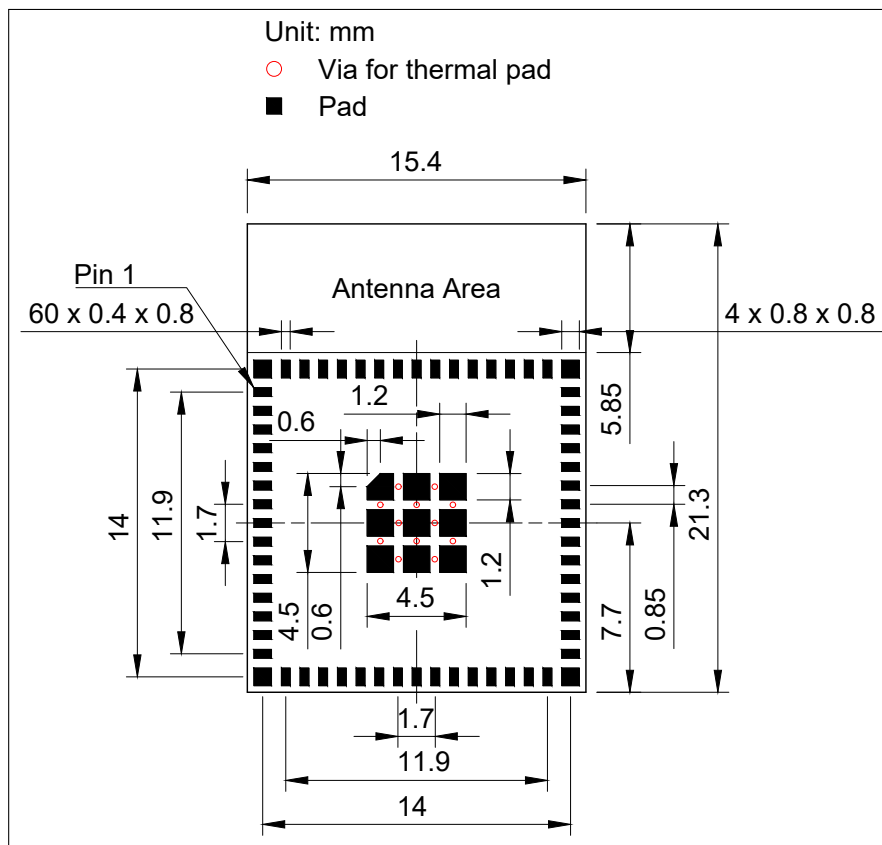
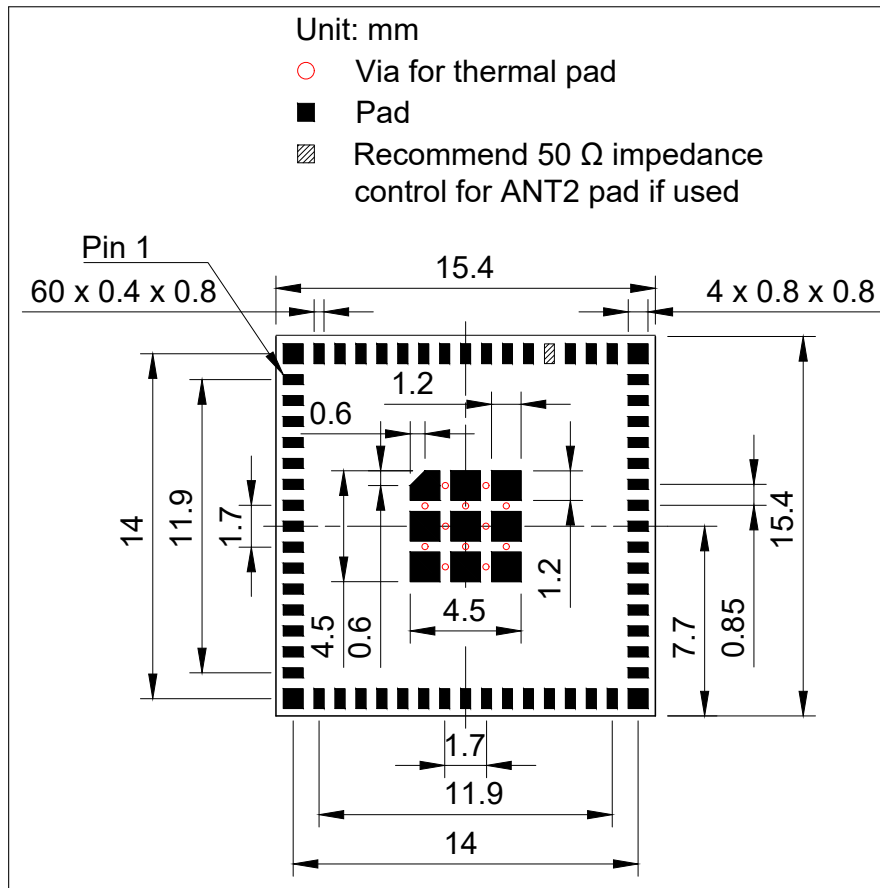

Figure 11-1. ESP32-C5-MINI-1 Recommended PCB Land Pattern
Figure 11-2. ESP32-C5-MINI-1U Recommended PCB Land Pattern
- Figures for recommended PCB land patterns with all the dimensions needed for PCB design. See Figure 11-1 *ESP32-C5-MINI-1 Recommended PCB Land Pattern* and Figure 11-2 *ESP32-C5-MINI-1U Recommended PCB Land Pattern*.
- Source files of recommended PCB land patterns to measure dimensions not covered in Figure 11-1 and Figure 11-2. You can view the source files for ESP32-C5-MINI-1 and ESP32-C5-MINI-1U with Autodesk Viewer.